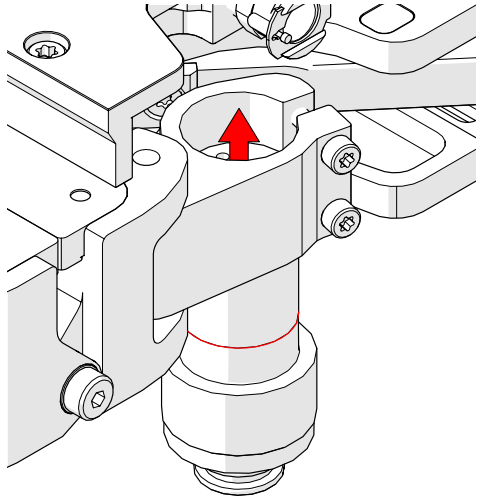

Fig. 187 - Align idler shaft etched line with base of clamp
5. The idler shaft at the rear of the SERKO has a etched line that must be aligned with the base of the clamp to ensure the idler shaft is placed correctly (Fig. 187).